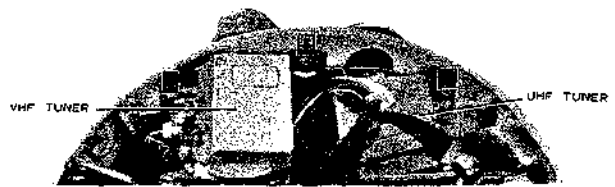

Fig. 3
3. Remove 3 arrow head screws indicated in Fig. 3.